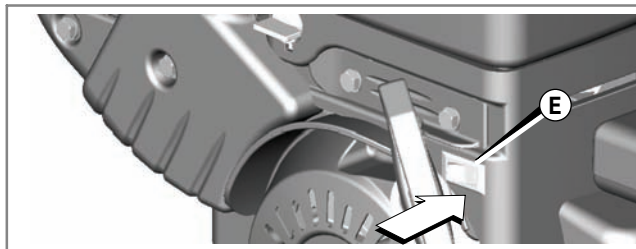

Figure 6
3. Push the stop switch (E), if equipped, to the on position (Figure 6).